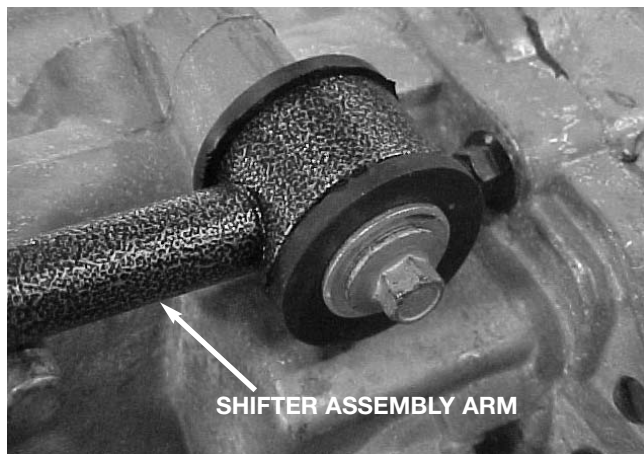

Figure 3
8. Using a 10mm wrench, remove the front bolt that secures the shifter assembly arm to the transmission and set aside (see fig.3).
1. Place Hurst shifter assembly on workbench. Insert the two (2) metal-flanged sleeves into the urethane bushings located in the Hurst shifter assembly arm, and replace the metal bracket onto the rear urethane mount. Insert the two (2) plastic linkage rod bushings into the shifter stick bottom. Lightly lubricate as needed.
3. From underneath the car, attach front shifter arm to the transmission. Lightly lubricate threads and replace hex bolt previously removed but do not tighten (see fig.3).